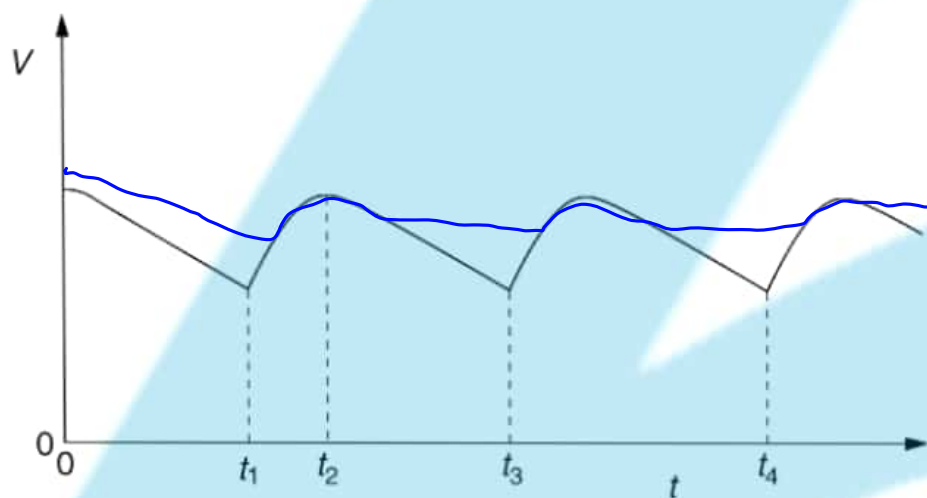

Fig. 4.2
- (c) Fig. 4.2 shows the variation with time  $t$  of the smoothed potential difference  $V$  across the resistor  $R$ .
- (ii) The resistance of the resistor  $R$  is doubled. On Fig. 4.2, sketch the variation with time  $t$  of the potential difference  $V$  across the resistor. [2]